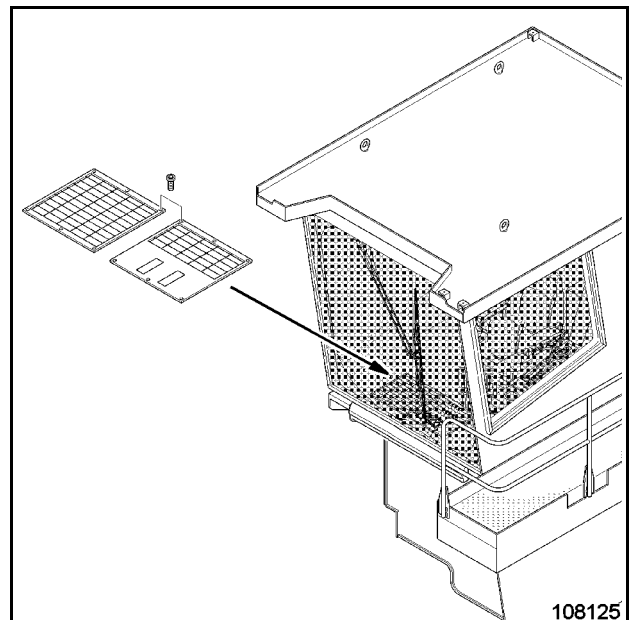

Fig. 3-169:
- Clean the floor window in front of the operator's seat from inside the cab (see Fig. 3-169:).
- Unscrew grids, mounted above the window (arrow, Fig. 3-169:).